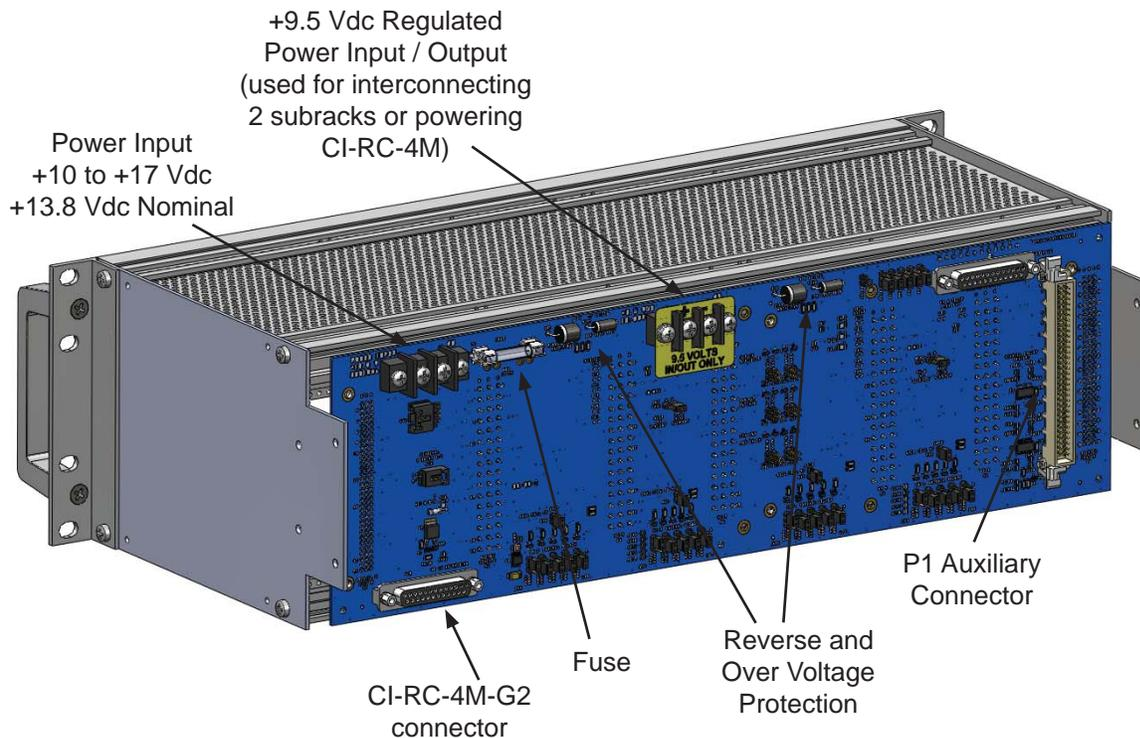

Figure 2-2: Subrack Power Connections
3. Connect the primary power (+10 Vdc to +17 Vdc, +13.8 Vdc nominal) to the Barrier Strip power input on the rear of the subrack as shown in Figure 2-2. Ensure that the power source does not exceed +18 Vdc. Use a wire gauge suitable for delivering the power required by the subrack(s). If the subrack is using a DC-DC or AC-DC Power Supply, refer to the specific manual supplied with the equipment for installation instructions.
For some applications, a cable, not a terminal strip connector, is used to connect to the auxiliary connector. The cable must be plugged into the P1 auxiliary connector shown in Figure 2-2 on the rear of the subrack. Ensure locking tabs on the connector are completely engaged.